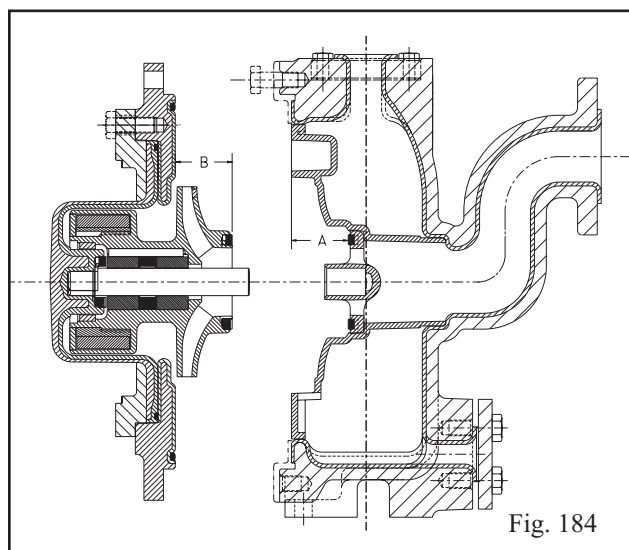

Fig. 184
16. Check rotary assembly total travel. See Fig. 184 below for the appropriate measurements needed. Total travel is A - B and should be .013 - .100 in. (0.33-2.5 mm).